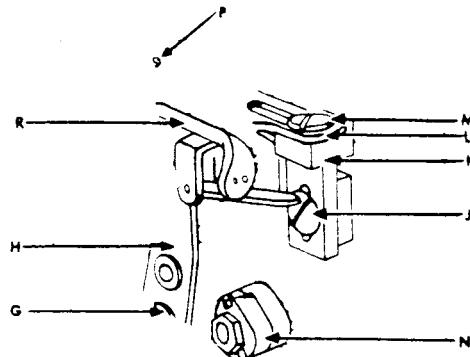

Fig. 24.
When threading, turn machine pulley to raise needle to its highest point. Thread needle thread bridge bracket K Fig. 24, Page 14, making sure that thread is under the thread (needle) controller "H" (Fig. 24, Page 14).
- (1) Replace the needle holder washer on needle carrier "N" (Fig. 24, Page 14) with needle holder washer and thread (needle) controller "S" (Fig. 23). Thread as illustrated in Fig. 23.
- (2) Slacken thread eyelet screw "P" (Fig. 24, Page 14) and move thread eyelet "R" (Fig. 24, Page 14) forward for slackier stitch and backwards for tighter needle thread stitch. Tighten screw "P" (Fig. 24).
- (1) Loosen thread eyelet screw "P" (Fig. 24, Page 14) and position thread eyelet "R" (Fig. 24) so that needle thread is in contact with needle carrier "N" (Fig. 24) at its lowest point.
- (2) Adjust needle thread tension as loosely as possible for satisfactory stitching.
- (1) Remove machine frame oil guard (top). Loosen thread (needle) controller screw "G" (Fig.24) and move thread (needle) controller "H" (Fig.24) until screw is in centre of slot. Tighten screw "G" securely. Replace machine frame oil Guard (top).
- (2) Loosen needle thread bridge bracket screw "J" (Fig.24) and move bracket "K" (Fig.24) until screw is near top end of slot and in line with thread tube. Tighten screw "J".
- (3) Loosen thread eyelet bridge screw "M" (Fig.24) and position thread eyelet bridge "L" (Fig.24) so that needle thread holes are in line with thread tube.
- (4) For tighter needle stitch, raise needle thread bridge bracket "K" (Fig.24) as required. Additional adjustment is provided by moving the thread eyelet bridge "L" (Fig.24) forward. The two needle threads and the looper thread should tighten at the bottom of the needle stroke in order to set a balanced stitch.
- (1) Remove machine frame oil guard (top). Loosen thread (needle) controller screw "G" (Fig.24) and move thread (needle) controller "H" (Fig.24) forward until screw is near front end of slot. Retighten screw "G" and replace machine frame oil guard (top).